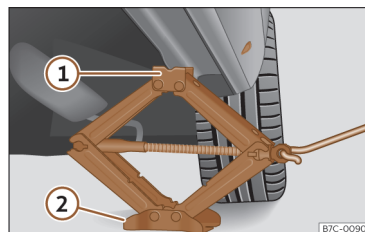

Fig. 246 Crossbar: mounting the jack on the vehicle.
- Turn the jack crank handle, located below the crossbar support point, to raise it until the tab **1** >>> **Fig. 246** is below the housing that is provided.